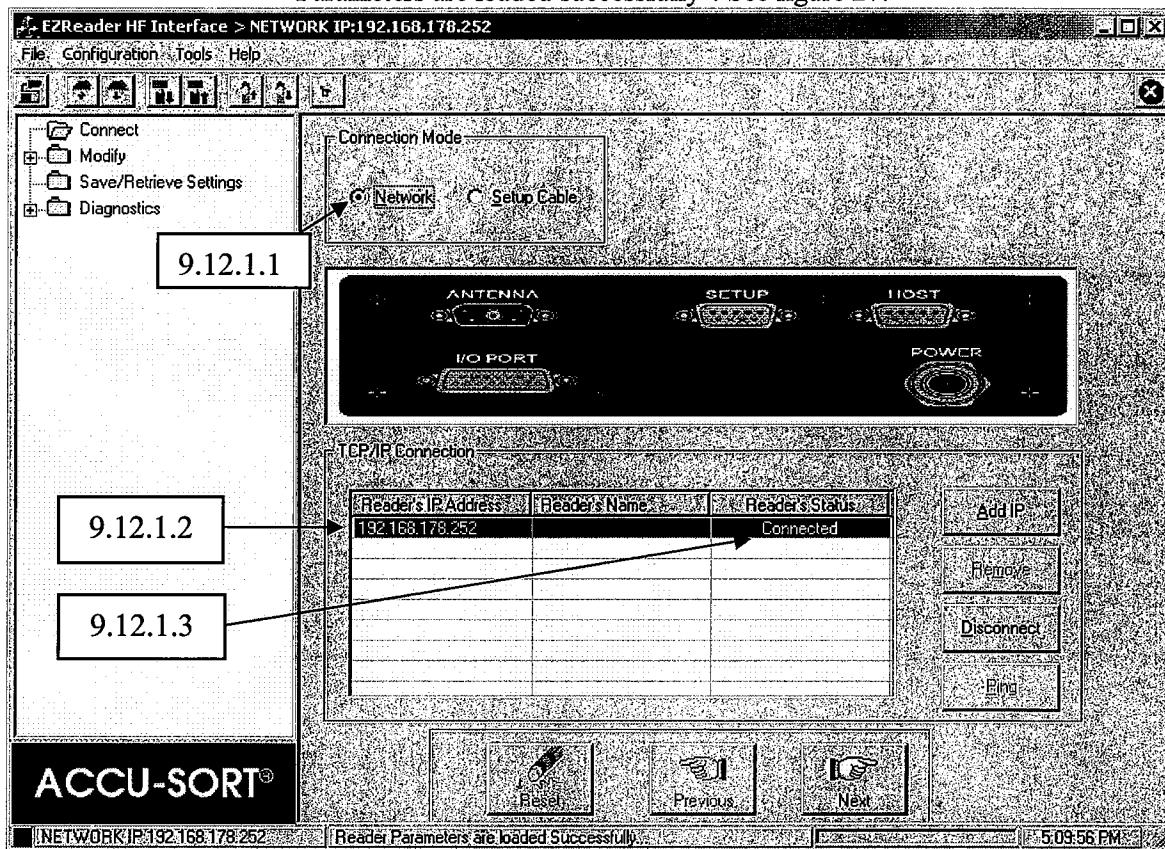

Figure 27
9.12.1.3 Click the Connect button, DUT status should show connected and the status message at the bottom of the screen should state "Reader Parameters are loaded successfully". See figure 27.